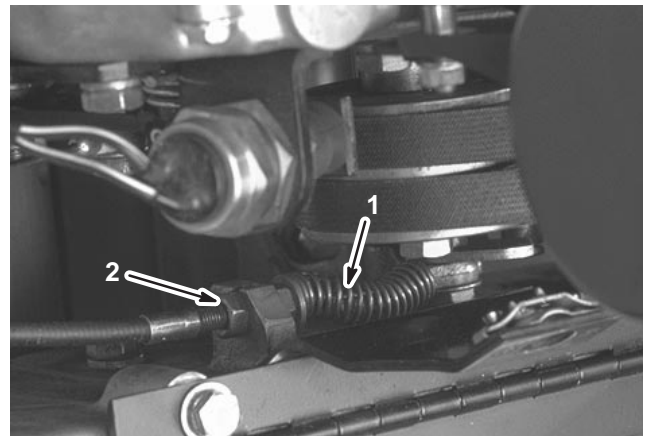

Figure 44
2. Loosen the retainer securing the V-belt cover and pivot the cover open (Fig. 44).
3. To increase the cable tension, loosen the front cable jam nut and tighten the back cable jam nut (Fig. 44) until a force of 3 to 5 lb. is required to engage brake. Measure the force at the lever knob. Do not over adjust it so that the brake band drags.